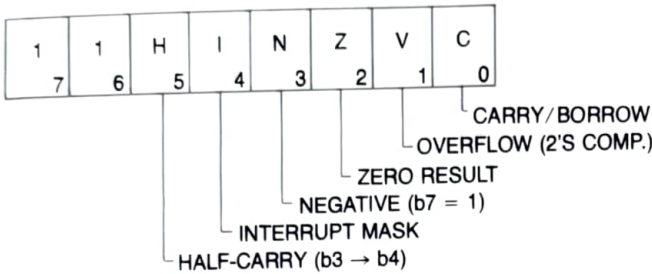

FIGURE 2-2. Condition Code Register Diagram
5. One Condition Code Register (CCR) of 8 bits. Each individual bit gets set or cleared as the result of executing an instruction. The primary use of this register is in the execution of the conditional branch instruction. The information currently contained in the CCR depends upon the results of the last instruction executed that affected the CCR. A diagram showing the data contained in the CCR is provided in Figure 2-2. Each of these bits is explained in Table 2-2. Note that bits 6 and 7 of the Condition Code Register are not used.